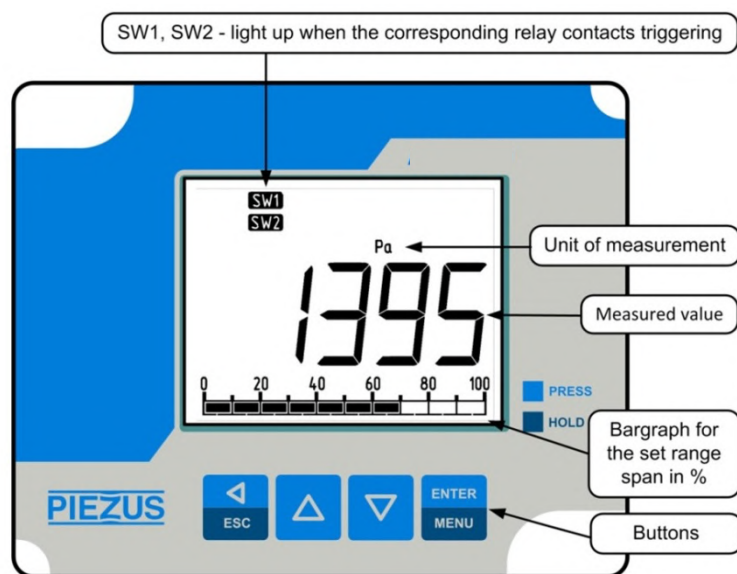

Figure 2 - Elements on the front panel of the device
5.1 There is a display and four buttons on the front panel of the device. See Figure 2 for their description.